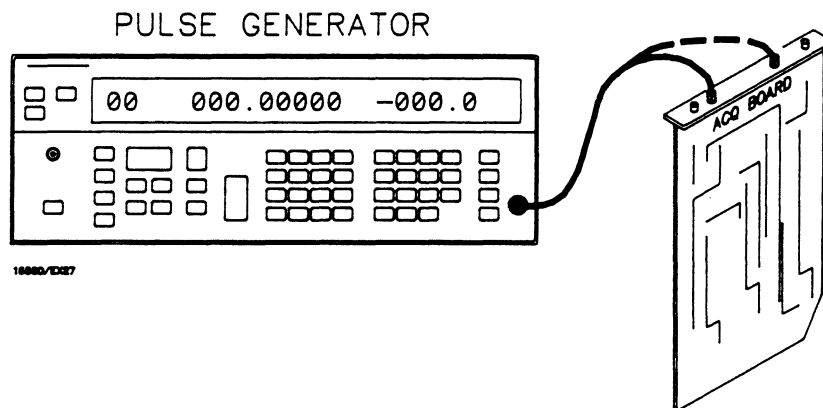

Figure 4-28. Attenuator Compensation Adjustment Equipment Hookup
- Connect pulse generator to INPUT 1 as shown in figure 4-28.